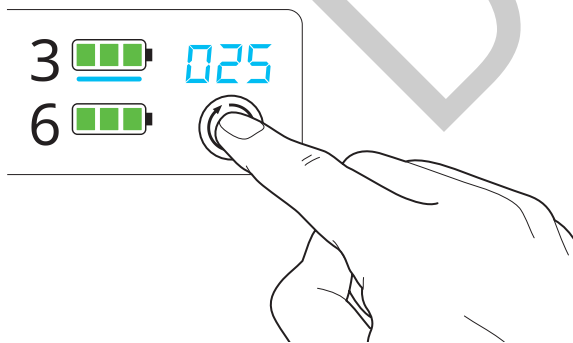

Figure 8 – Check cycle count
1. Press the cycle button to select a battery. The bay status indicator for that battery illuminates solid blue (Figure 8).